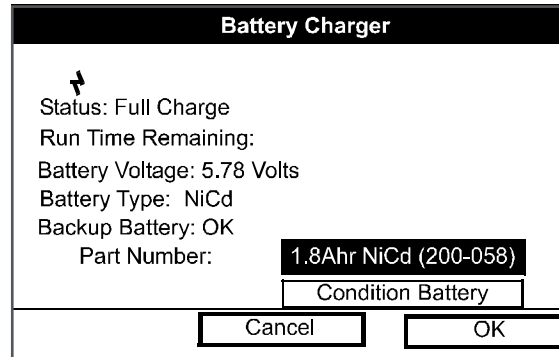

Figure 105: The Battery Charger Window
1. From the Meter menu, scroll to the Battery entry and press **[ENTER]**. The Battery Charger window opens, as shown in Figure 105.